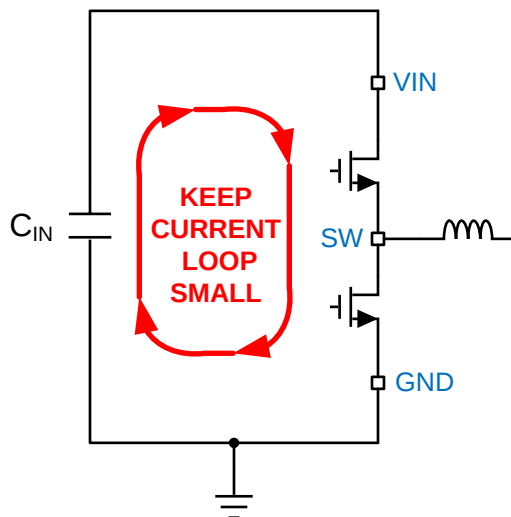
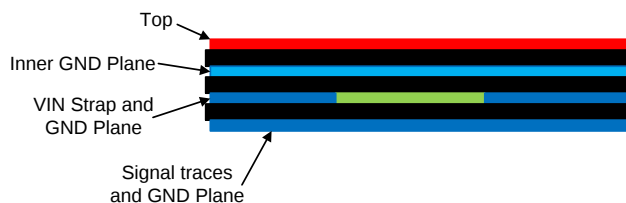

Figure 50. Current Loops with Fast Edges
Figure 52. Example Layout for VQFN Package
The PCB layout of any DC/DC converter is critical to the optimal performance of the design. Bad PCB layout can disrupt the operation of an otherwise good schematic design. Even if the converter regulates correctly, bad PCB layout can mean the difference between a robust design and one that cannot be mass produced. Furthermore, the EMI performance of the regulator is dependent on the PCB layout, to a great extent. In a buck converter the most critical PCB feature is the loop formed by the input capacitor(s) and power ground, as shown in Figure 50. This loop carries large transient currents that can cause large transient voltages when reacting with the trace inductance. These unwanted transient voltages will disrupt the proper operation of the converter. Because of this, the traces in this loop should be wide and short, and the loop area as small as possible to reduce the parasitic inductance. Figure 51 and Figure 52 show recommended layouts for the critical components of the LMR33630.
1. **Place the input capacitor(s) as close as possible to the VIN and GND terminals.** VIN and GND pins are adjacent, simplifying the input capacitor placement. With the VQFN package there are two VIN/PGND pairs on either side of the package. This provides for a symmetrical layout and helps to minimize switching noise and EMI generation. A wide VIN plane should be used on a lower layer to connect both of the VIN pairs together to the input supply; see Figure 52.